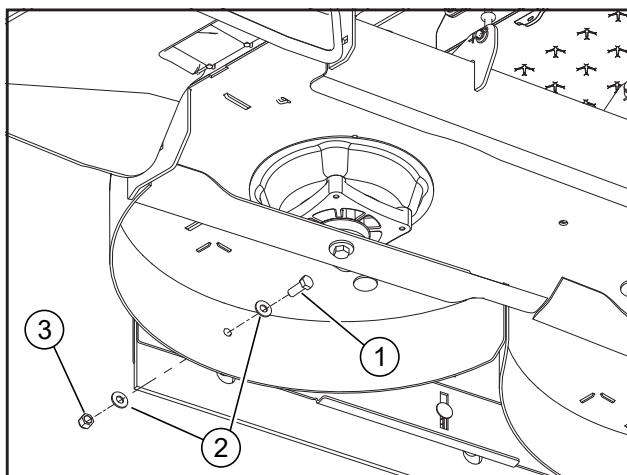
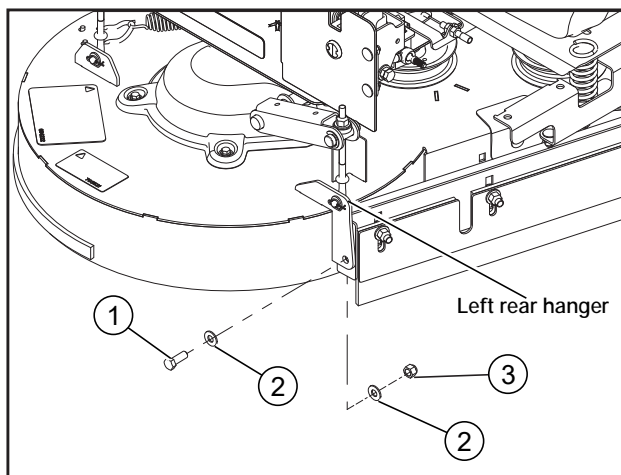

FIG. 3
FIG. 4
6. Attach the stripe kit to the deck using the hole in the left rear hanger, and the hole drilled out in the right rear wrapper. FIG. 3 & FIG. 4